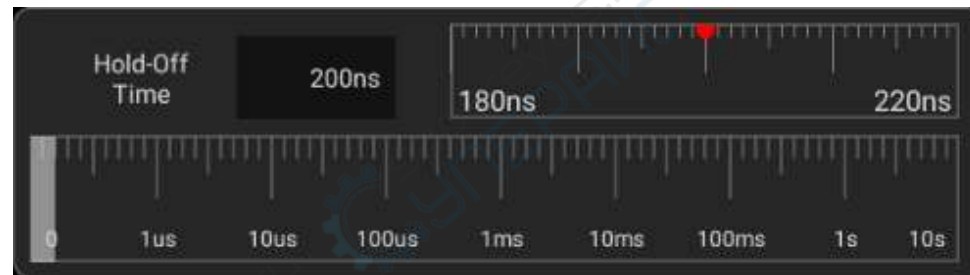

Figure 6-11 Trigger Hold-Off Time Set Interface
- 1) Tap “Trigger” on the main menu to open the trigger menu. Under “Common”, tap the box after “Rejection Time” to open the hold-off time adjustment interface. The trigger time is displayed on the upper left, the fine adjustment time scale is displayed on the upper right, and the coarse time scale is displayed below, as shown in Figure 6-11.